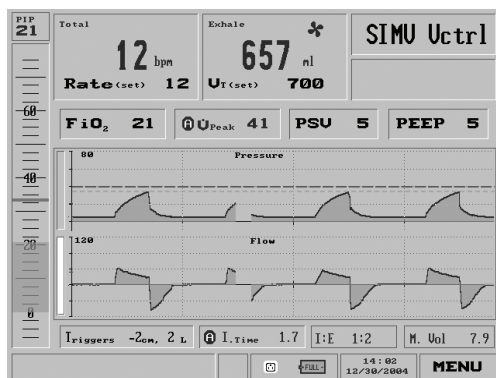

Figure 5.36 The Flow waveform selected
1. On the Main Screen, adjust the dial to select either the Pressure or Flow select bar (see Figure 5.36).